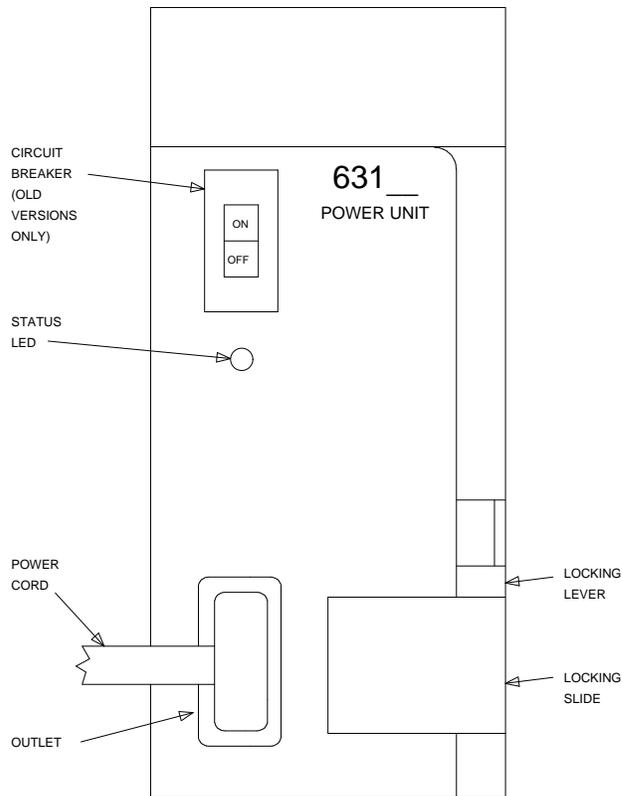

Figure 4-9. 631-Type Power Unit
13. Connect the power cords to the power units. The power cords are the white cables equipped with plugs that are run through the slots in the front of each carrier (see Figure 4-9).